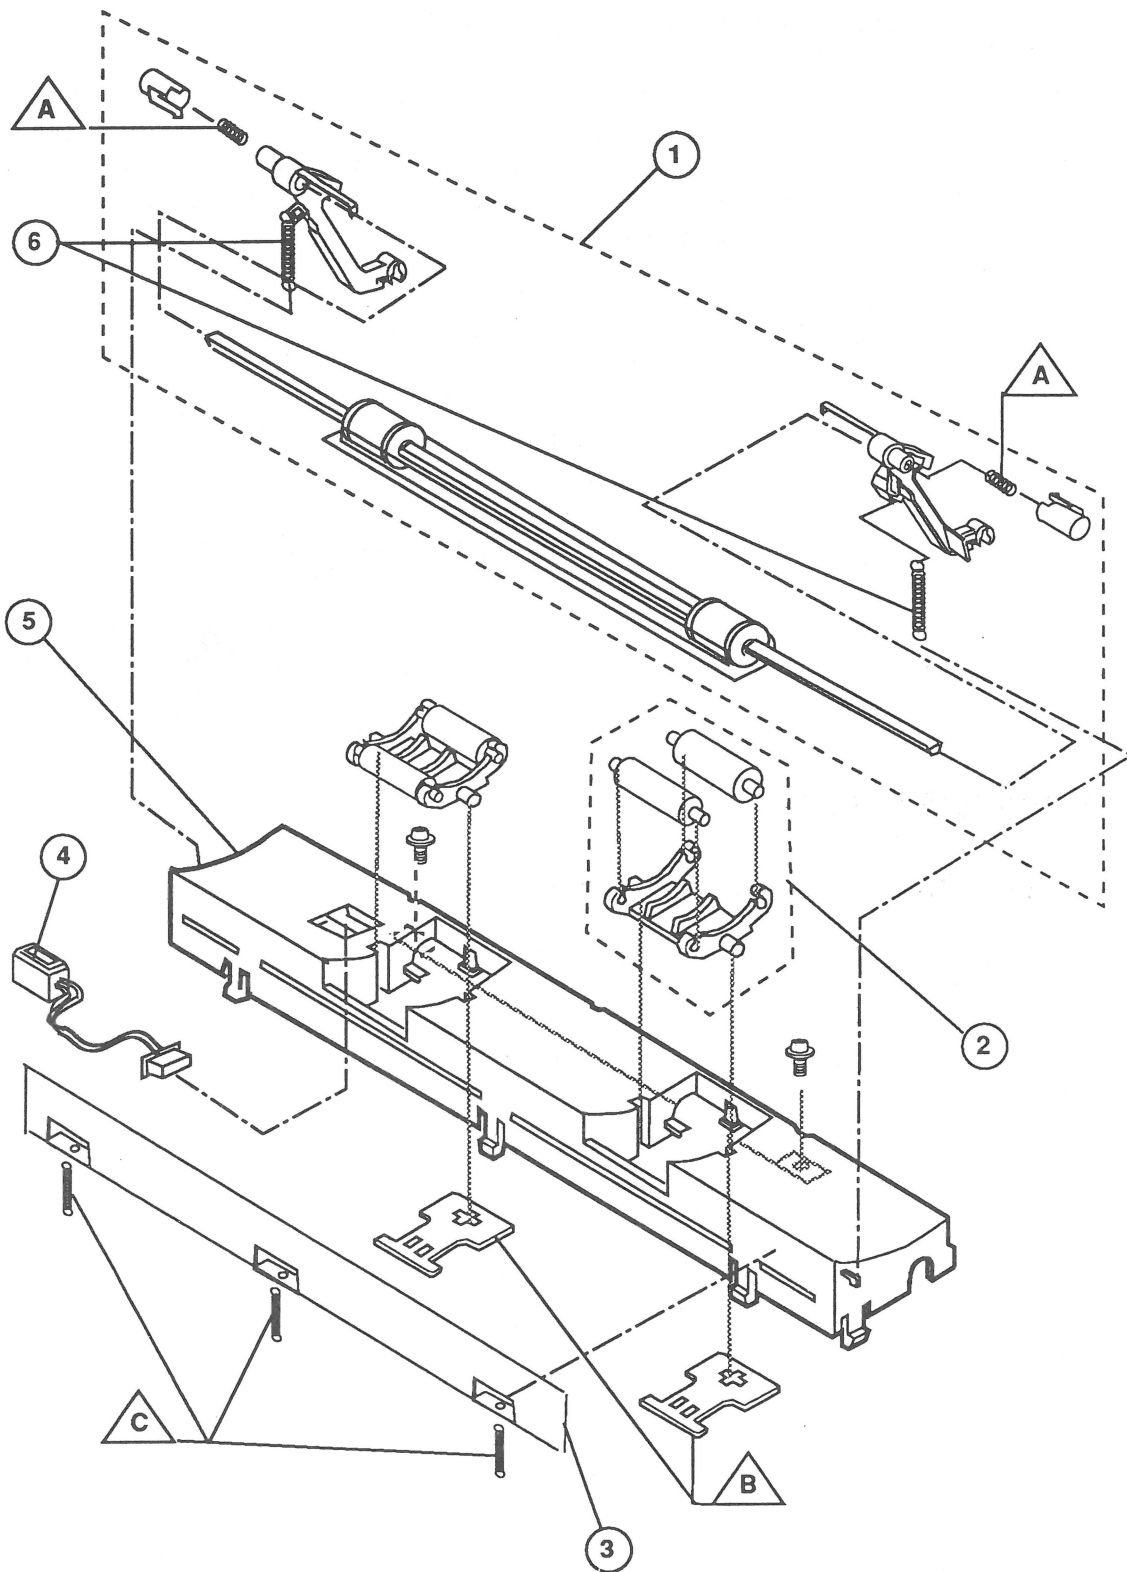

Figure 2
IPL.7	Paper Guide Assembly (Figure 2)
□ PAPER GUIDE ASSEMBLY (Figure 2)